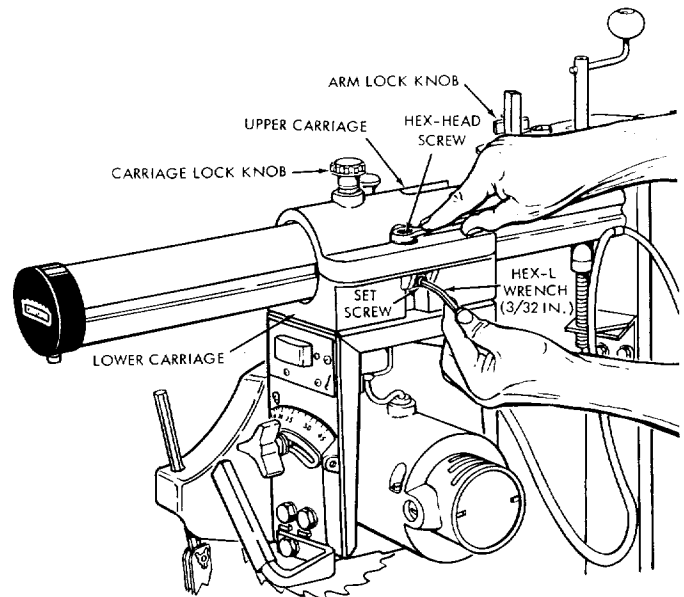

Figure 56
- (1) Index the radial arm at 0° and tighten the arm lock knob.
- (2) Loosen the carriage lock knob.
- (3) Loosen the hex-head screw that secures the upper carriage to lower carriage. (See figure 56.) (This screw passes through the right-hand carriage bearing.)
- (4) Using the 3/32-inch hex-L wrench, furnished, rotate the socket-head set screw (figure 56) clockwise to adjust the carriage bearing more firmly against the radial arm.
- (5) Adjust in small increments, tightening the hex-head screw after turning the set screw. The adjustment is correct when there is no play between the carriage and radial arm, and yet the carriage moves relatively free along the arm.
- (6) Tighten the hex-head screw securely and recheck.